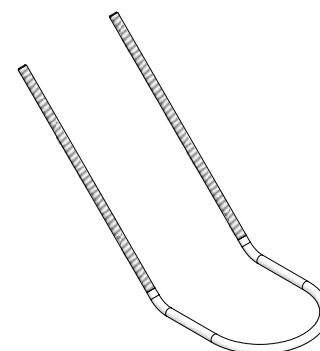
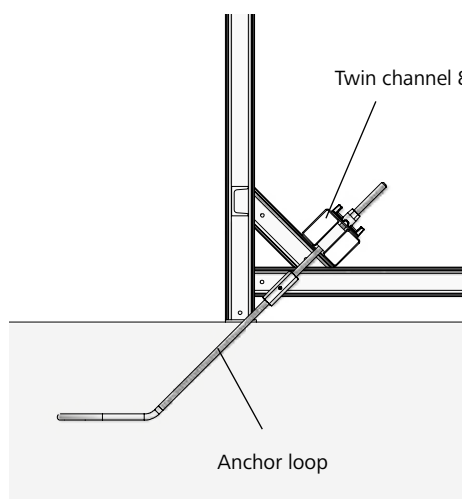
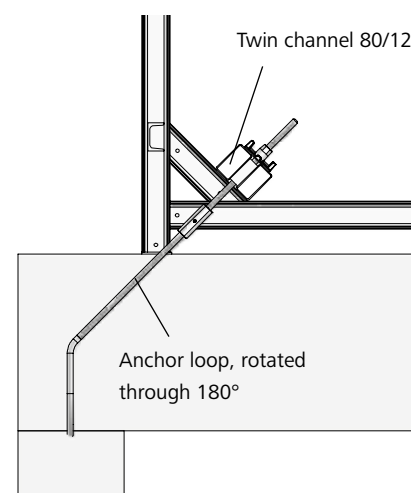

Fig. 19.2 Anchor loop
Fig. 19.3
Fig. 19.4
- With anchor loop 15 (Fig. 19.2) or 20 and twin channel (Figures 19.3 and 19.4) or with anchor loop 15 or 20 turned through 180° (Fig. 19.4). Contact the structural engineer if additional rebars are required.